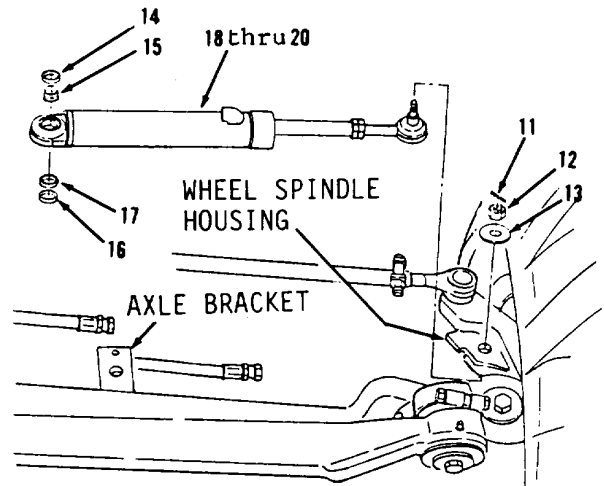
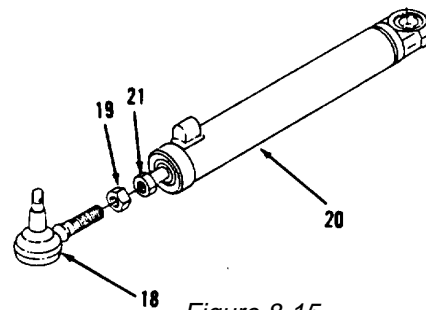
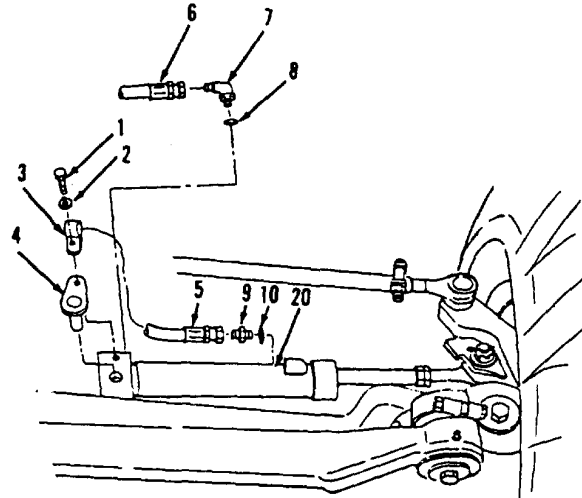

Figure 8-14.
Figure 8-15.
Figure 8-13.
5. Remove cotter pin (11), nut (12) and washer (13, Figure 8-14). Discard cotter pin (11).
6. Remove items 18 thru 20 as an assembly from axle bracket by prying or pulling and from wheel spindle housing by using socket removing tool.
7. Remove spacer (14), bearing (15), spacer (16) and ring (17).
8. Loosen nut (19) while holding hex (21, Figure 8-15) end of rod.
9. Remove socket (18) and nut (19) by unscrewing from cylinder (20).
1. Install nut (19) and socket (18) on cylinder (20, Figure 8-15). Screw socket (18) and nut (19) into cylinder (20) with the same amount of threads exposed as recorded in removal.
2. Tighten nut (19) while holding hex (21) end of rod.
3. Install ring (17), spacer (16), bearing (15) and spacer (14) in items 20 thru 18 as an assembly (Figure 8-14).
4. Install items 20 thru 18 as an assembly in axle bracket and wheel spindle housing.
5. Install washer (13), nut (12) and new cotter pin (11). Tighten nut (12) to 103 ft-lb torque.
6. Install new preformed packing (10) and connector (9) to cylinder (20, Figure 8-13).
7. Install new preformed packing (8) and elbow (7).
9. Install pin (4), clip (3), washer (2) and bolt (1).